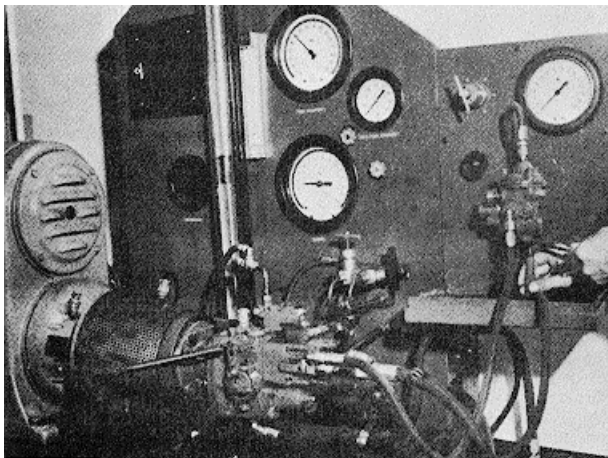

Fig. 5-2-3, F5287. Adjusting aneroid fuel screw
7. Set air regulator to "0" inches of mercury. Adjust screw in bottom of aneroid housing to value specified under "Fuel Manifold Pressure" for pump and aneroid code shown in Table 5-2-1. Fig. 5-2-3.